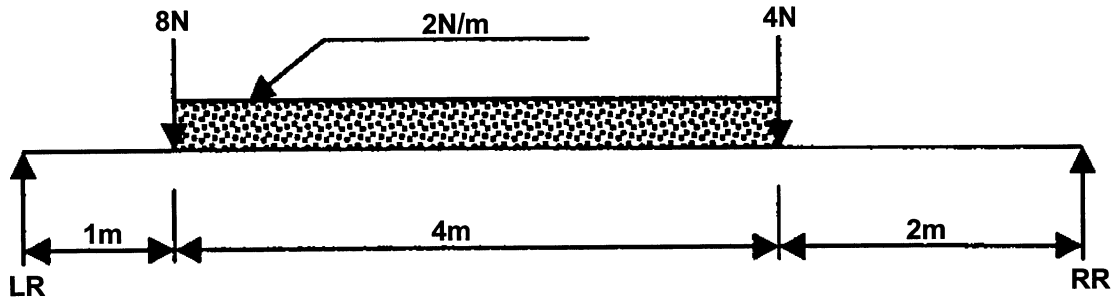

Figure 2
2.2 The simple supported beam in **Figure 2** carries a distributed load of 2 N/m over the 4 metre section of the beam. The total length of the beam is 7 metres.